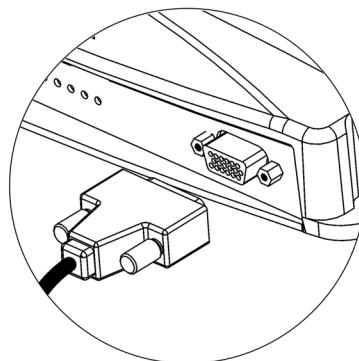

Figure 2-2: VGA Connection
2. Attach the video cable of a VGA monitor or flat-panel display to the In-Sight sensor's **VGA** connector (Figure 2-2).